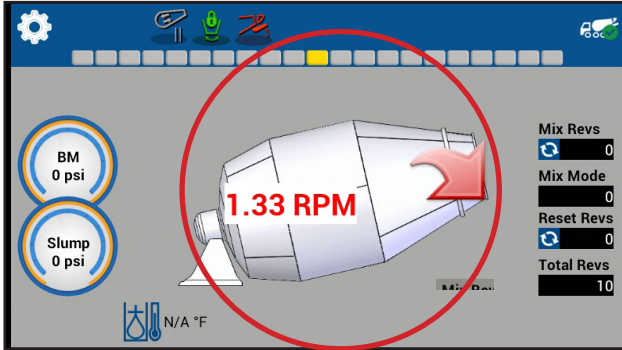

Figure 17
- Adjust drum rotation controls for the desired drum rotation speed and monitor the drum speed and rotation direction on the touch screen display HOME screen (Figure 17).